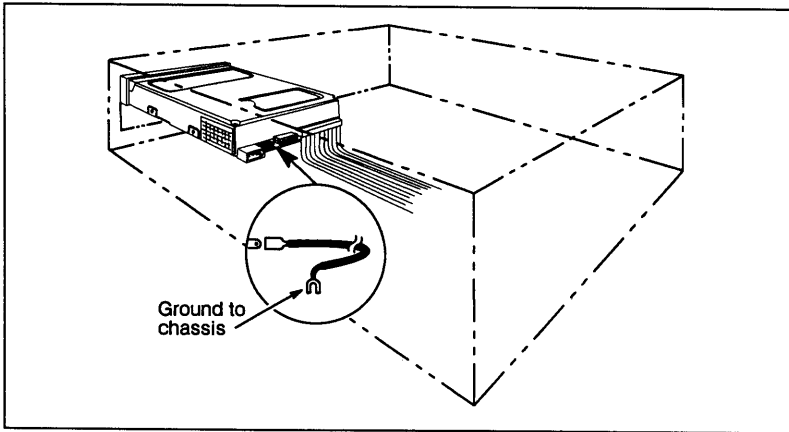

Figure 1-8. Attaching the Ground Lug Connector
- d. Connect the ground lug connector to the SQ555 and the chassis of the computer. See FIGURE 1-8.